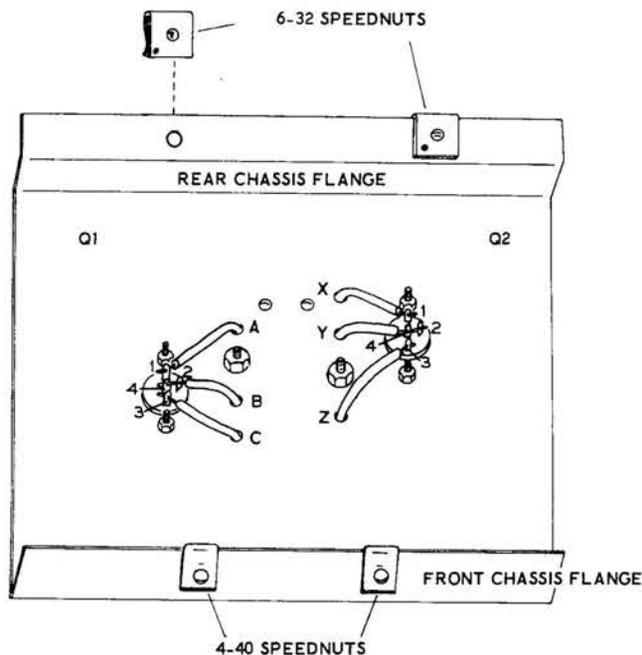

Figure 2K
Refer to Figure 2K for the following steps.
- () Install two 6-32 speednuts over the holes on the rear chassis flange. Install two 4-40 speednuts over the holes on the front chassis flange. Be sure the flat surface of the speednuts face as they are shown in Figure 2K.